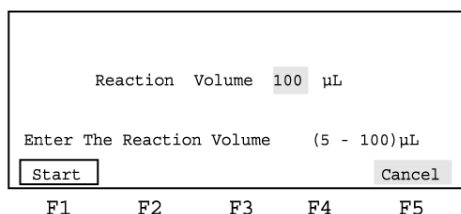

Figure 2-5. The Reaction Volume screen
3. Press **F1-Start**. This displays the Reaction Volume screen (Figure 2-5).